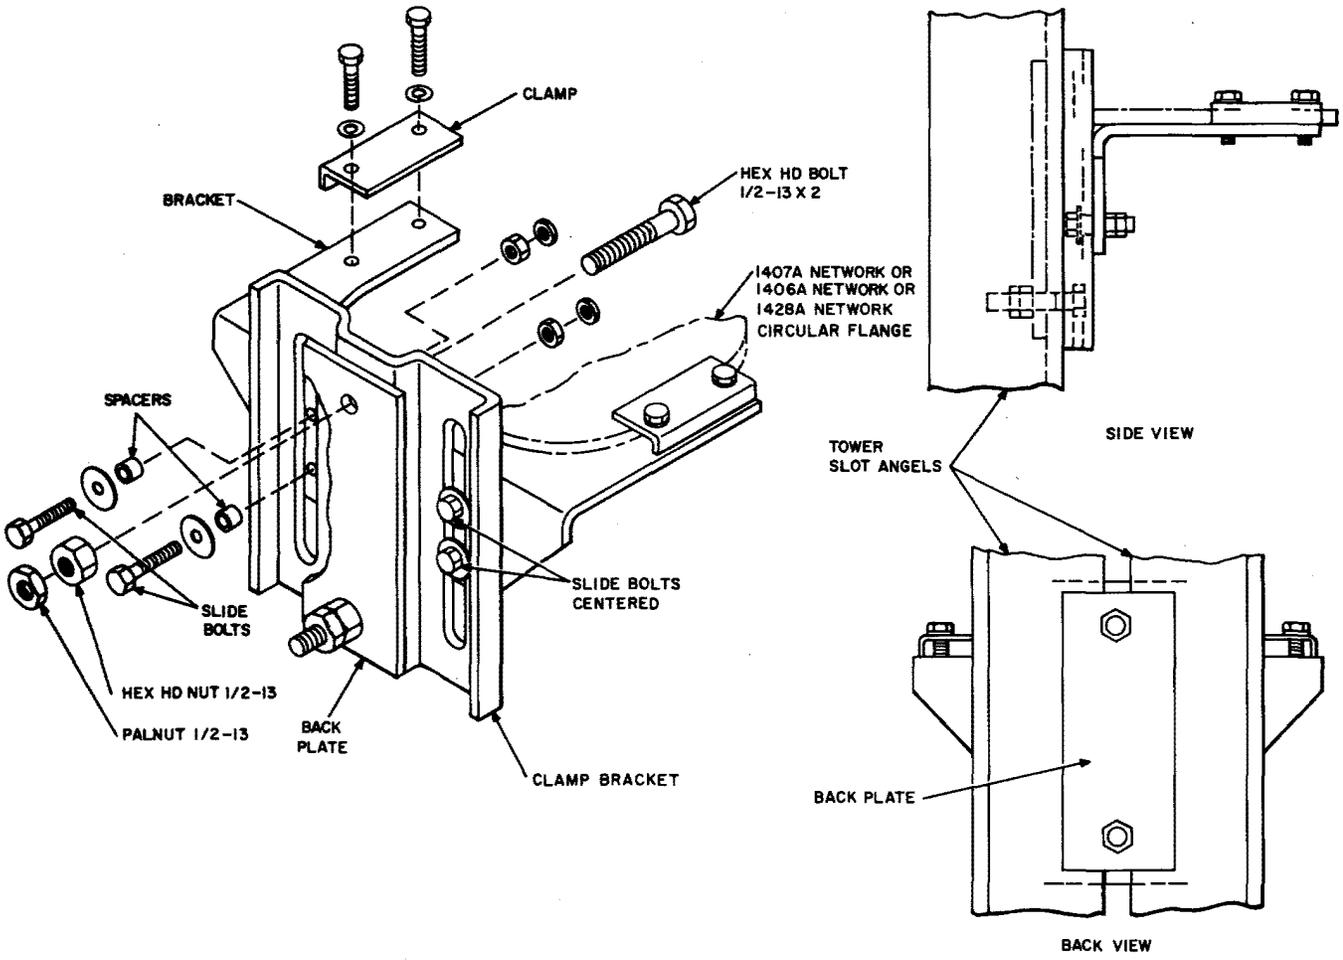

Fig. 13—Installation of Network Restrainer
**2.34** The network restrainers are shipped assembled. To install, proceed, as follows. (See Fig. 13.)